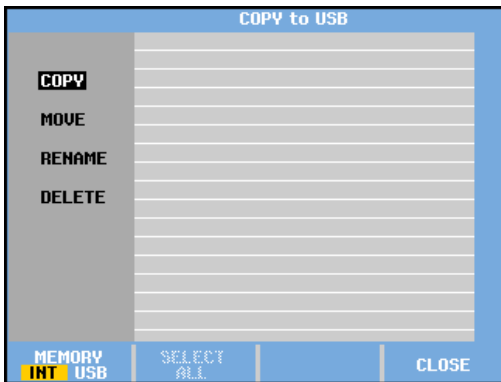

Figure 1.
- If you see the screen shown Figure 1, no screens and setups are stored. Press F4 (CLOSE) to exit.